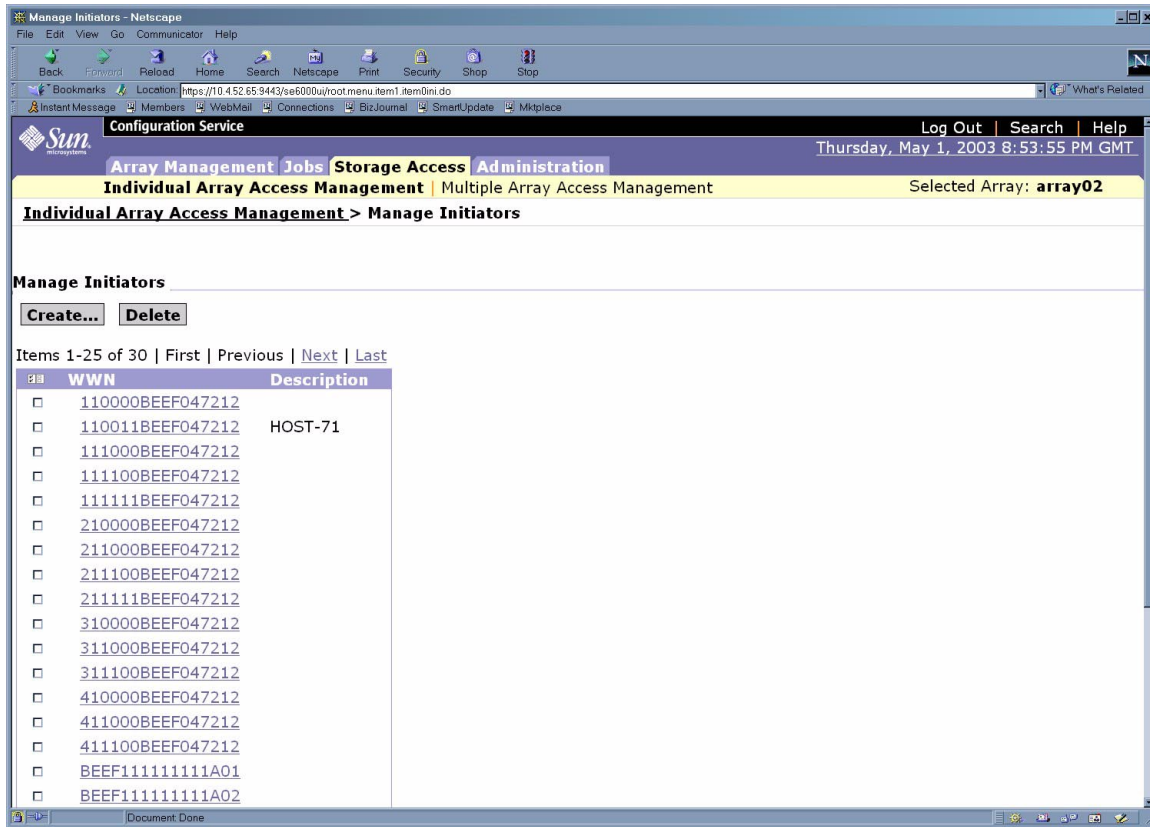

FIGURE 6-32 Individual Array Access Management—Manage Initiators
7. Click on Manage Initiators and the Manage Initiators page is displayed as in shown in FIGURE 6-32.